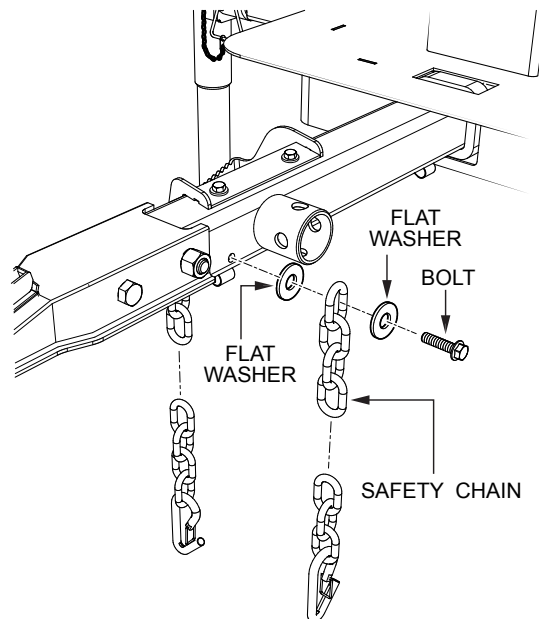

Figure 13. Safety Chain Installation
1. Install the safety chain (Figure 13) onto the tow bar using the hardware that was removed in the "Tow Bar Removal" section, step 5. Tighten bolt securely.